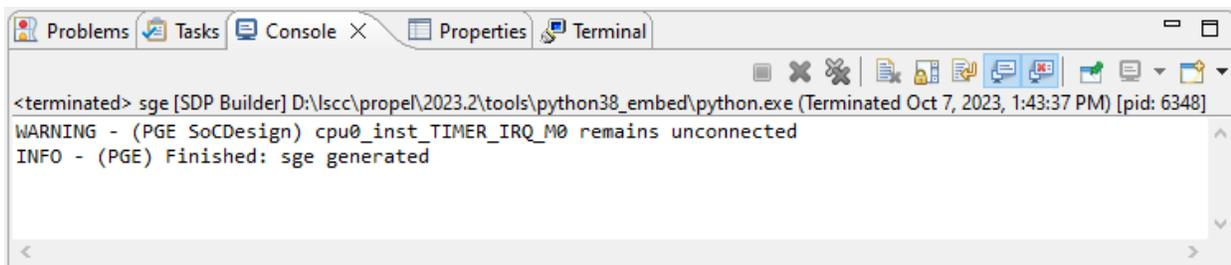

Figure 3.17. Build Result of SoC Project
3. Check the building result in the **Console** view (Figure 3.17).